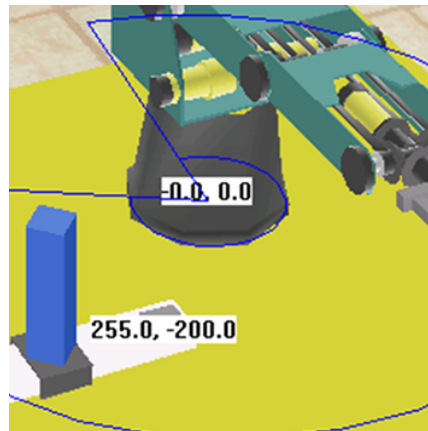

Figure 2. Feeder Coordinates
- Double-click the **Feeder** and position the feeder at 255,-200 (Figure 2).